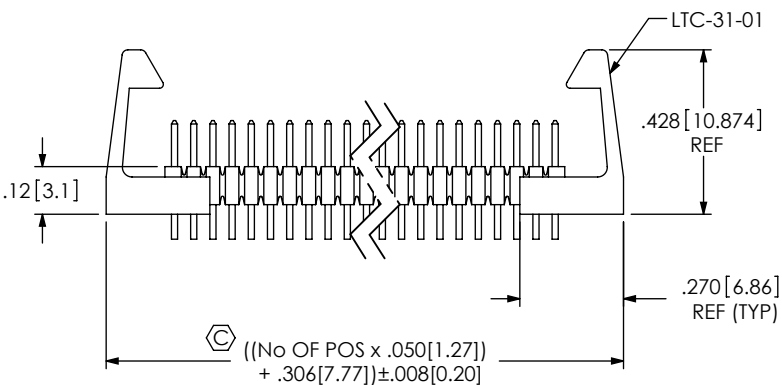

FIG 8
- LC: LOCKING CLIP: (SEE FIG 8, SHT 3)